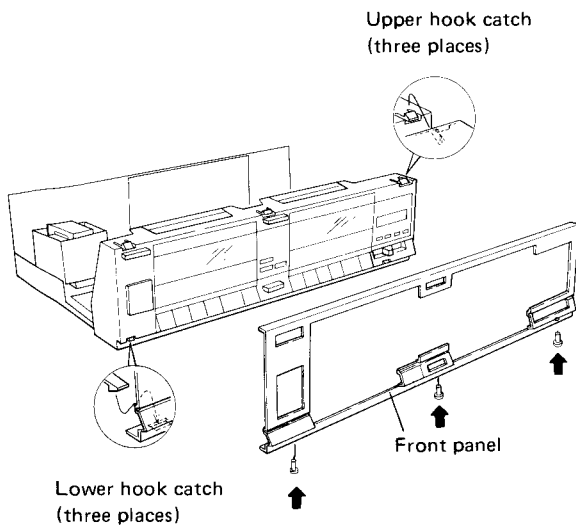

Fig. 3-2
2. Remove the front panel. (Refer to Fig. 3-2)